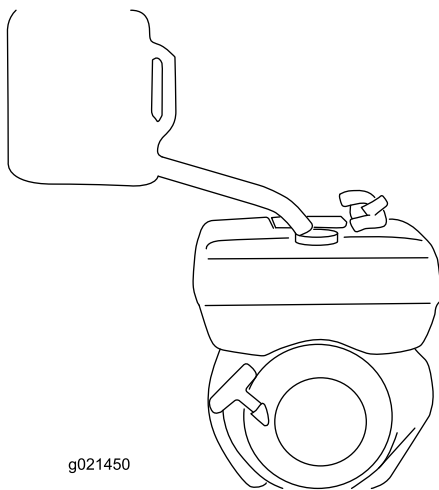

**Figure 16**
2. Clean around the fuel-tank cap and remove it (Figure 16).